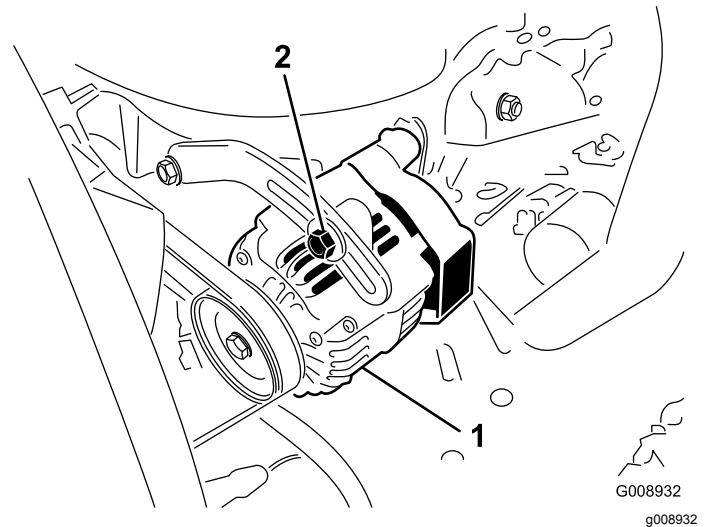

Figure 81
2. If the deflection is not 10 mm (3/8 inch), loosen the alternator mounting bolts (Figure 81).